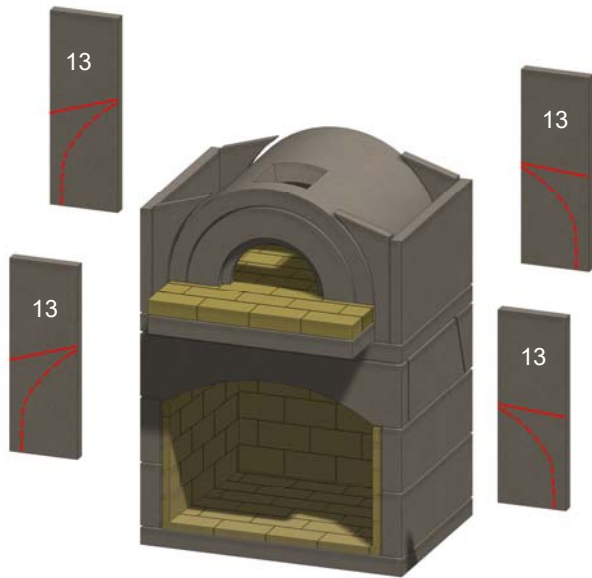

Figure 26. Enclosure End Panels
T. Install the enclosure end panels (13). End panels are larger than required, and should be field cut to the approximate shape outlined in red. Note that these do not need to be exact, as any voids will be filled in with mortar. You may also cut into multiple smaller pieces if needed or preferred. Mortar the trimmed pieces into place. See Figure 26.